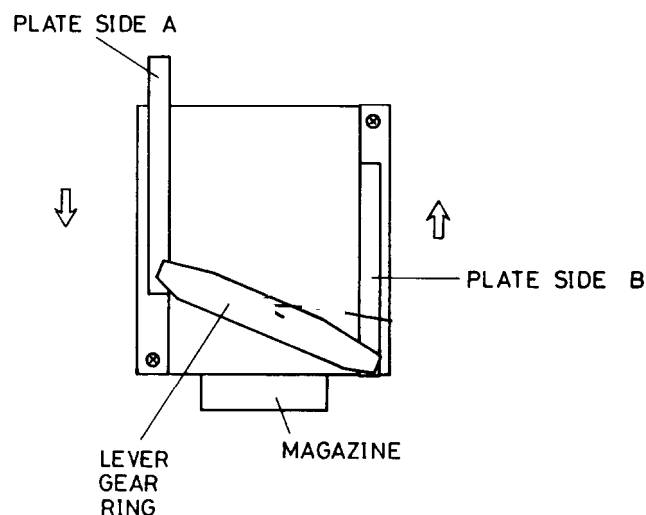

Fig. 12
2. Put the selected disc on the turntable for chucking. With the above steps, the disc loading process is completed. This operation launches a series of operations set in motion by the gear ring operation of plate side A and plate side B, which are attached at the left and right of the mechanism. This series of operations is driven by the DC motor. When the DC motor is running, plate side A operates, and lever gear ring is introduced, upon which plate side B also begins gear ring operation. When plate side A operates in the direction shown in Figure 12, the disc is loaded.